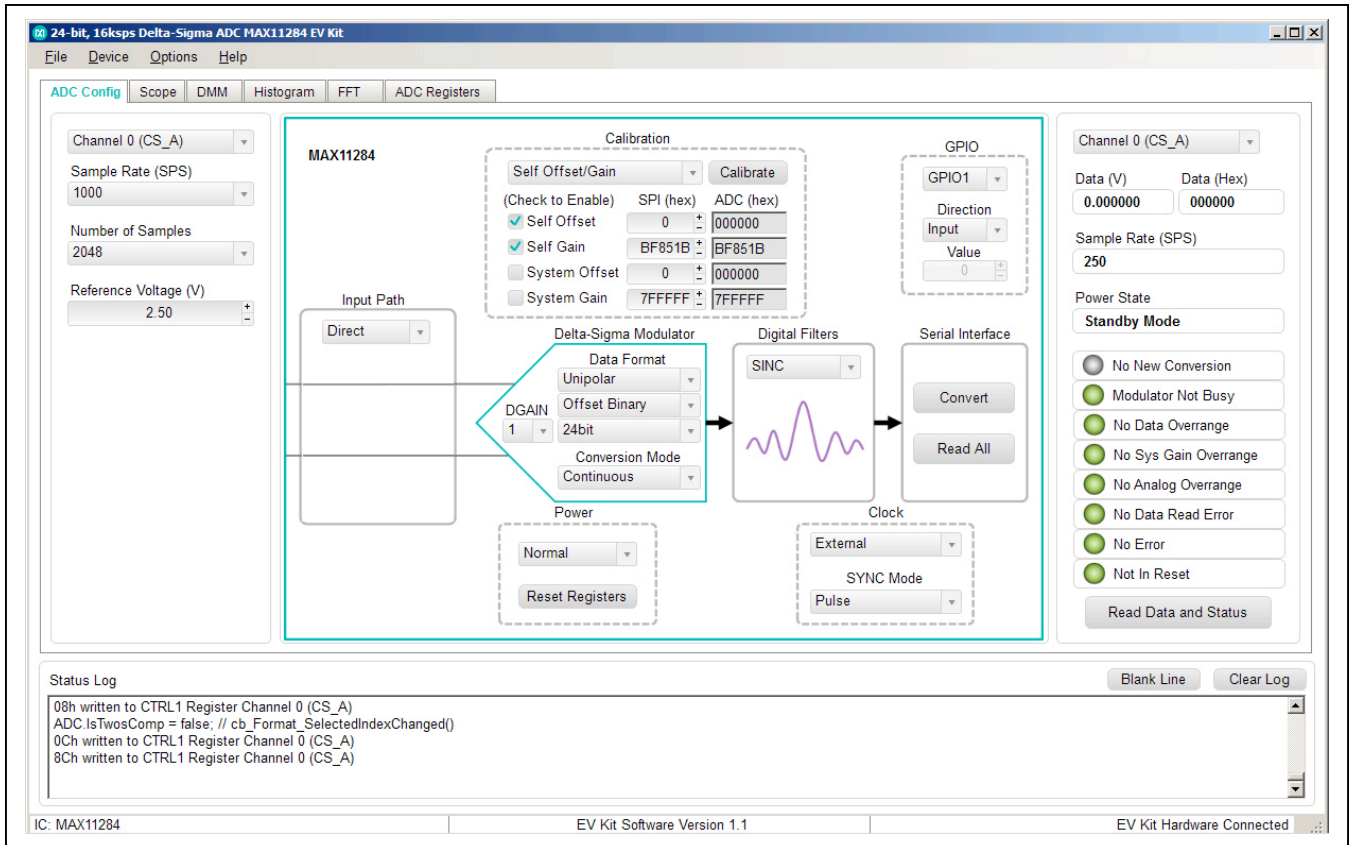
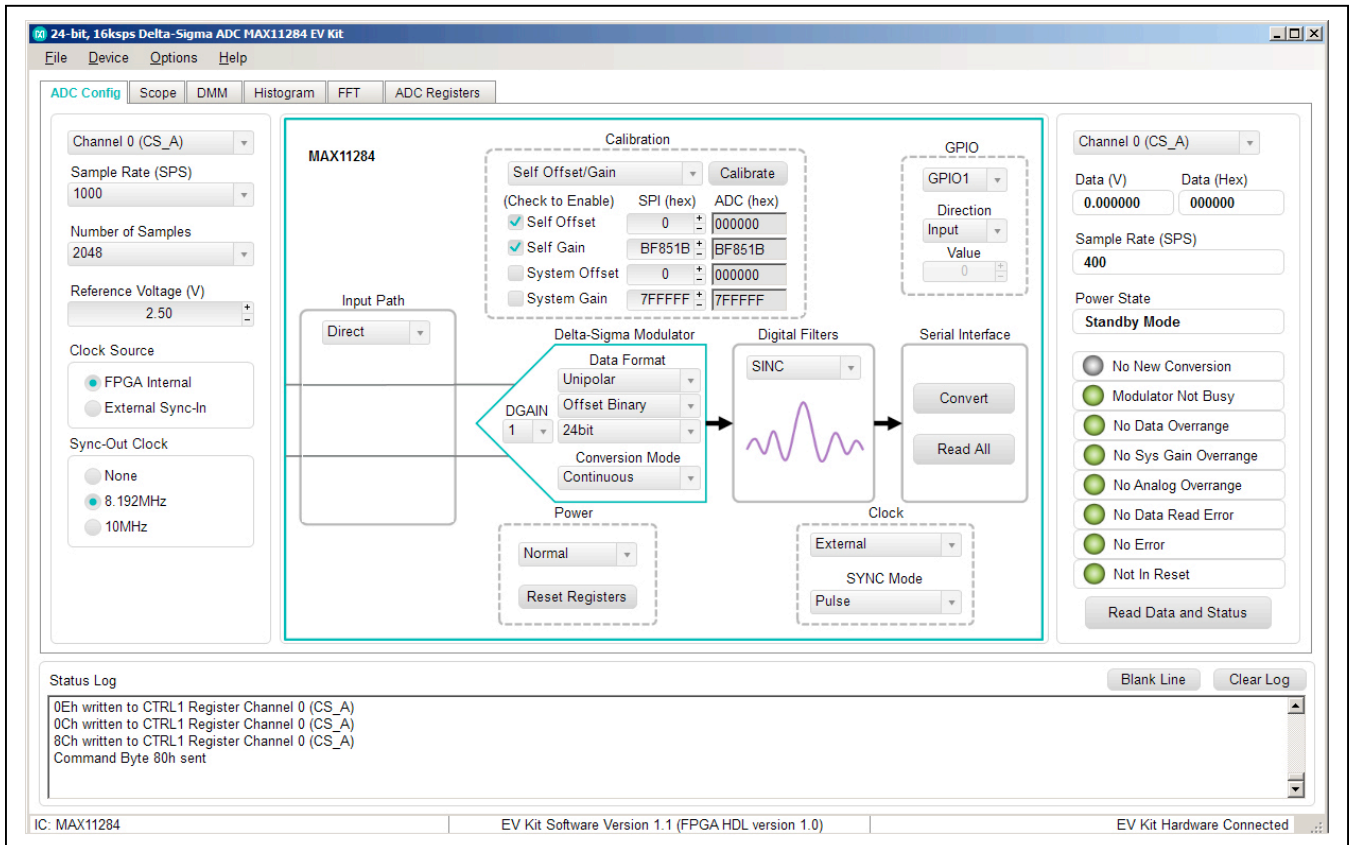

Figure 1. MAX11284 EV Kit Software (Standalone, ADC Config Tab)
Figure 2. MAX11284 EV Kit Software (FPGA, ADC Config Tab)
- 24) The EV kit software appears as shown in Figure 1 for standalone mode or Figure 2 for FPGA mode.
The **ADC Config** tab provides an interface for configuring the IC from a functional perspective. See Figure 1 for standalone mode and Figure 2 for FPGA mode. The main block provides for channel selection(s), calibration, GPIO control, Input path selection, data format, filtering, power, clocking, and sync out clock (FPGA mode only). To begin, select the IC populated on the EV Kit with the drop-down list. To read all the configuration settings, click the **Read All** button in the **Serial Interface** block. When a setting is changed, the register associated with that setting is automatically written. The **Status Log** at the bottom of the GUI shows the value and register that was changed.